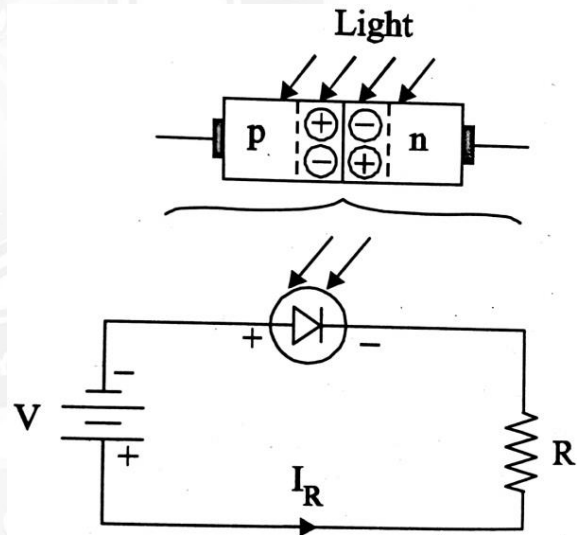

Fig. 4.13
1. The photo diode is reverse biased as in fig. 4.13.